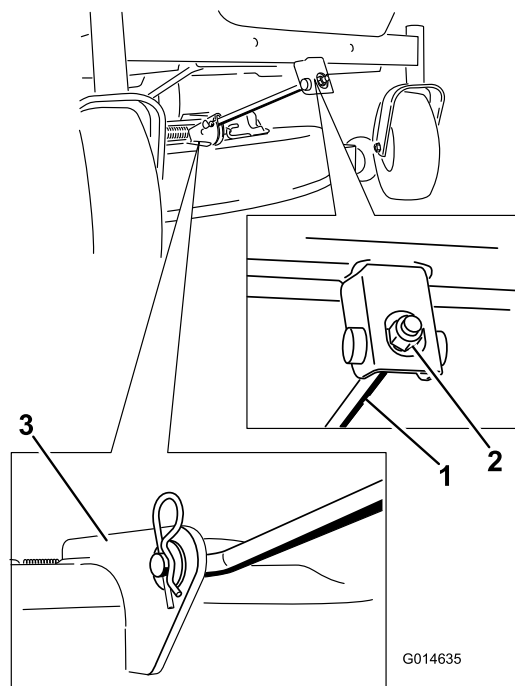

Figure 60
4. Remove the hairpin cotter from the front support rod and remove the rod from the deck bracket (Figure 60). Carefully lower the front of the mower deck to the ground.
6. Attach the front support rod to the mower deck with the clevis pin and hairpin cotter (Figure 60).